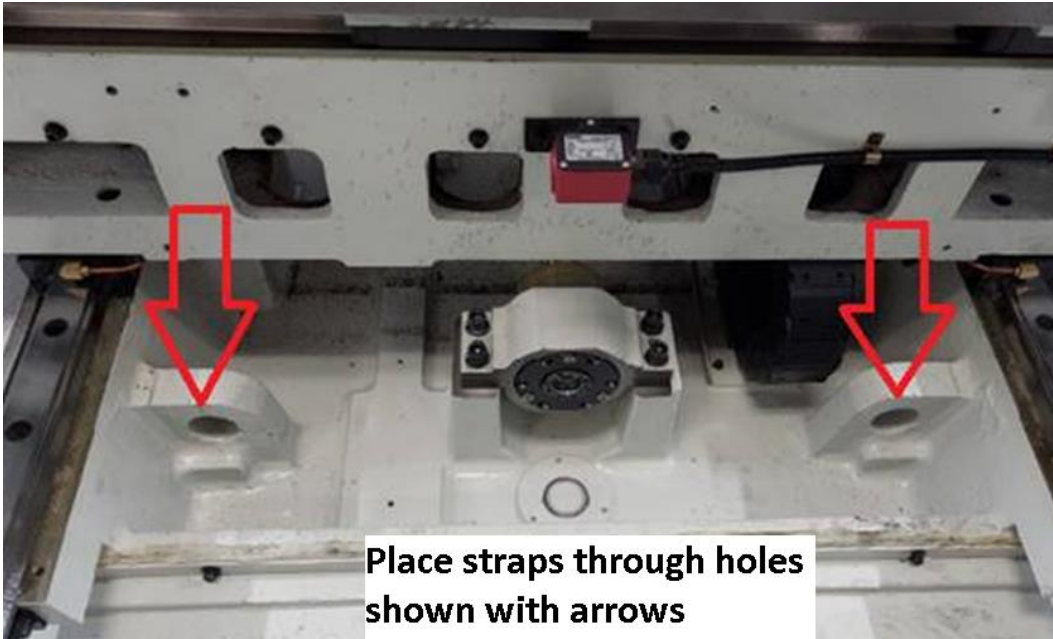

Figure 7 – Lifting Machine with Straps – Y Axis Lift Points
- The TMC may be lifted via a crane with 4 points shown in figure 7 and 8.